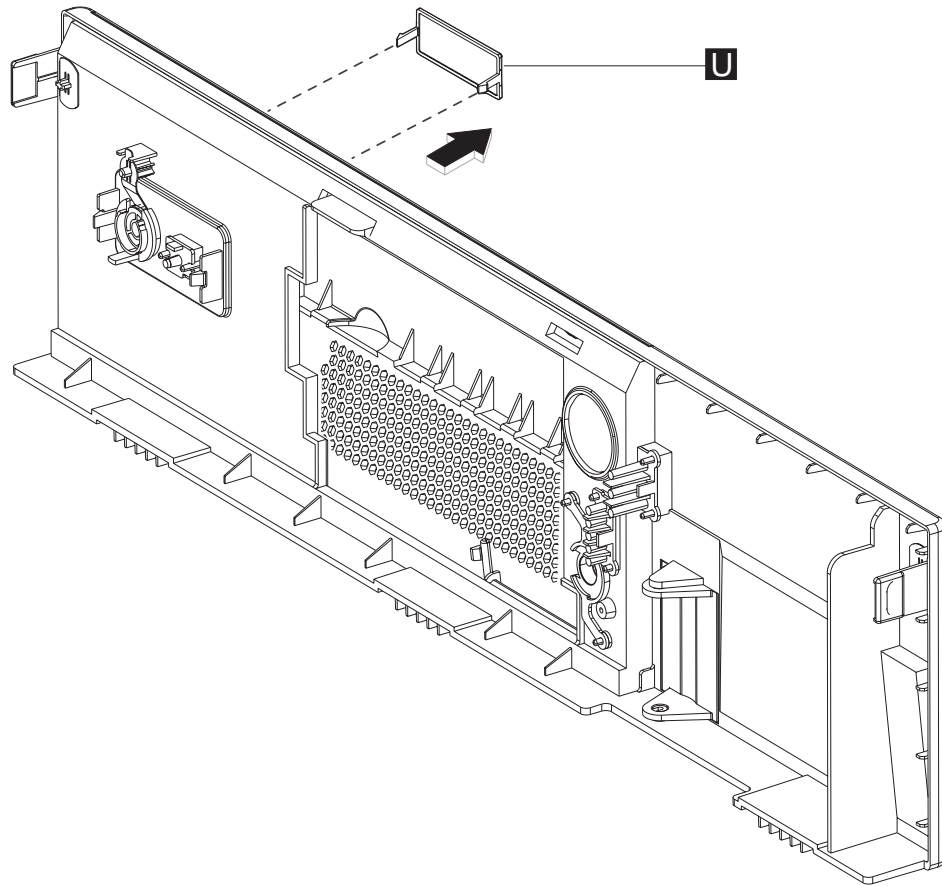

Figure 27. Removing the blank for the UPS switch panel
4. If a UPS is installed in your wide unit, remove the UPS switch panel blank ( **U** in Figure 27) from the bezel.